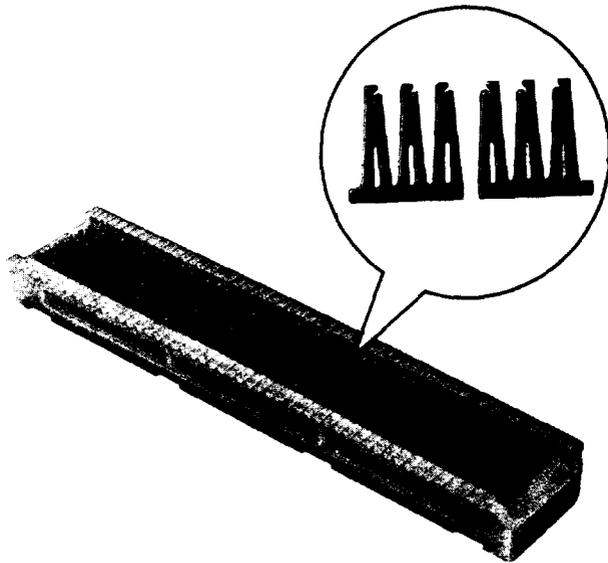

Fig. 1—66B3-50 Connecting Block
**1.01** The 66-type connecting blocks (Fig. 1 through 11) consist of multiple terminal connectors inserted in molded plastic blocks and held in place by retaining plates.
66B3-50	White (Fig. 1)